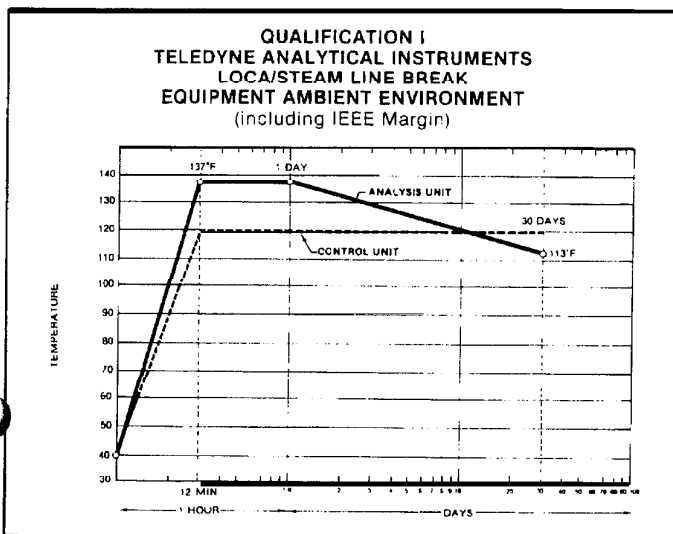

Figure 5.
- a. Temperature: to 120° F (49° C). See Figures 5 and 7.
- a. Temperature: See Figure 5 and 7